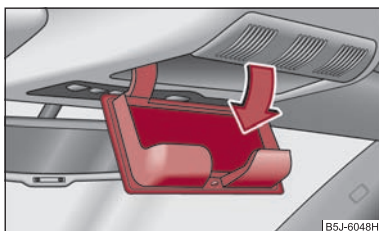

Fig. 82 Detail of the headliner: Storage compartment for spectacles
- Press on the lid of the stowage compartment, the stowage compartment opens downwards ⇒ fig. 82.